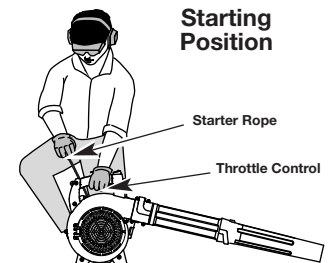

Fig. 13
WARNING: Avoid accidental starting. Make sure you are in the starting position when pulling the starter rope (Fig. 13). To avoid serious injury, the operator and unit must be in a stable position while starting. To avoid serious personal injury, make sure that the blower tube is locked in place or firmly installed.
- NOTE:** The unit should be started in idle. Do not squeeze the trigger while starting (Fig. 13).
5. Crouch in the starting position (Fig. 13) and pull the starter rope out until you feel some resistance. This is usually around 2-4 inches. Pull 4 times in smooth and rapid pulls.